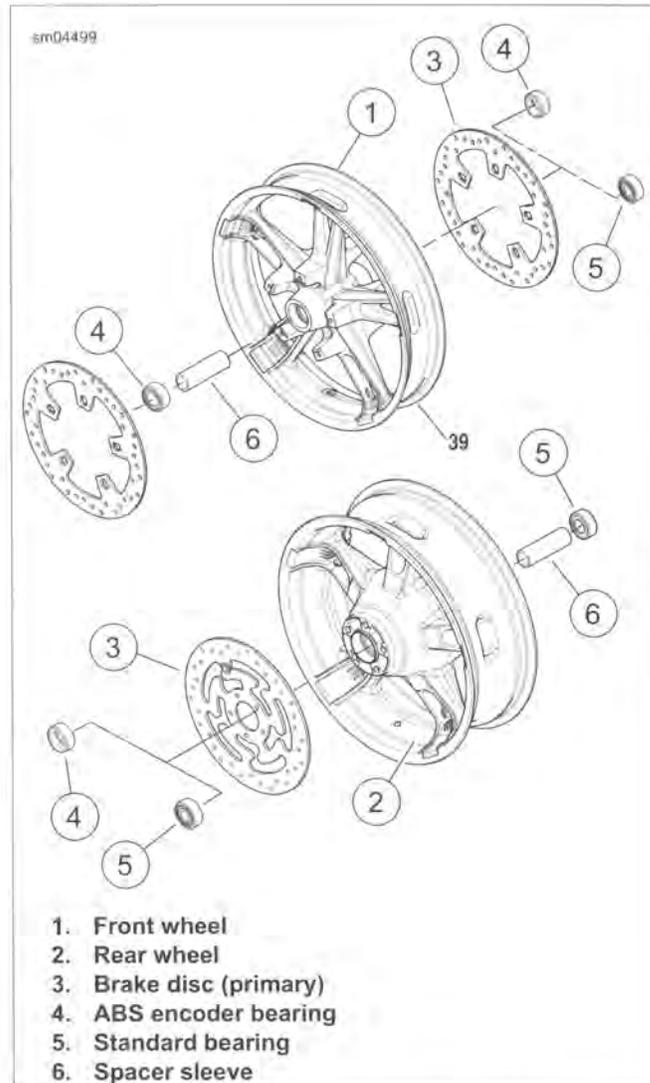

Figure 2-34. Wheel Bearing Assemblies
8. See Figure 2-34. Remove spacer sleeve (6) from hub.